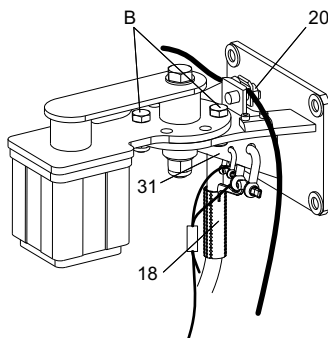

Fig. 14 Top fixation bracket with lifting and safety wires and cable sock
21. Mount the cable sock (pos. 18) to the top fixation bracket using the shackle, and pull the motor cable through it to the desired position. See fig. 14. The power supply cable should be slightly tightened.